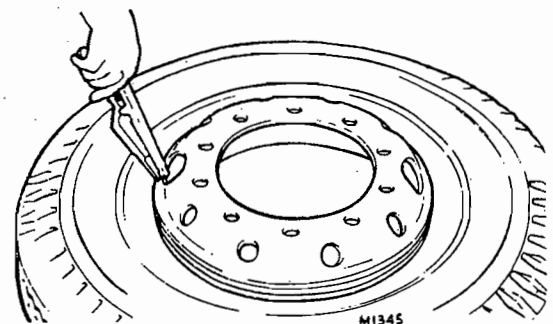

FIG. 7. REMOVING VALVE ALIGNMENT TOOL
6. Remove the Dunlop valve alignment tool by releasing the screw, or the Goodyear by unclipping from the wheel base. See Fig. 7.